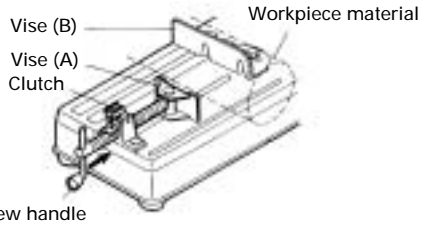

Fig. 2
1. Procedure for fixing the cutting material (Fig. 2 and 3)
Place the workpiece material between vise (A) and vise (B), raise the clutch and push the screw handle to bring vise (A) lightly into contact with the workpiece material, as shown in Fig. 2.